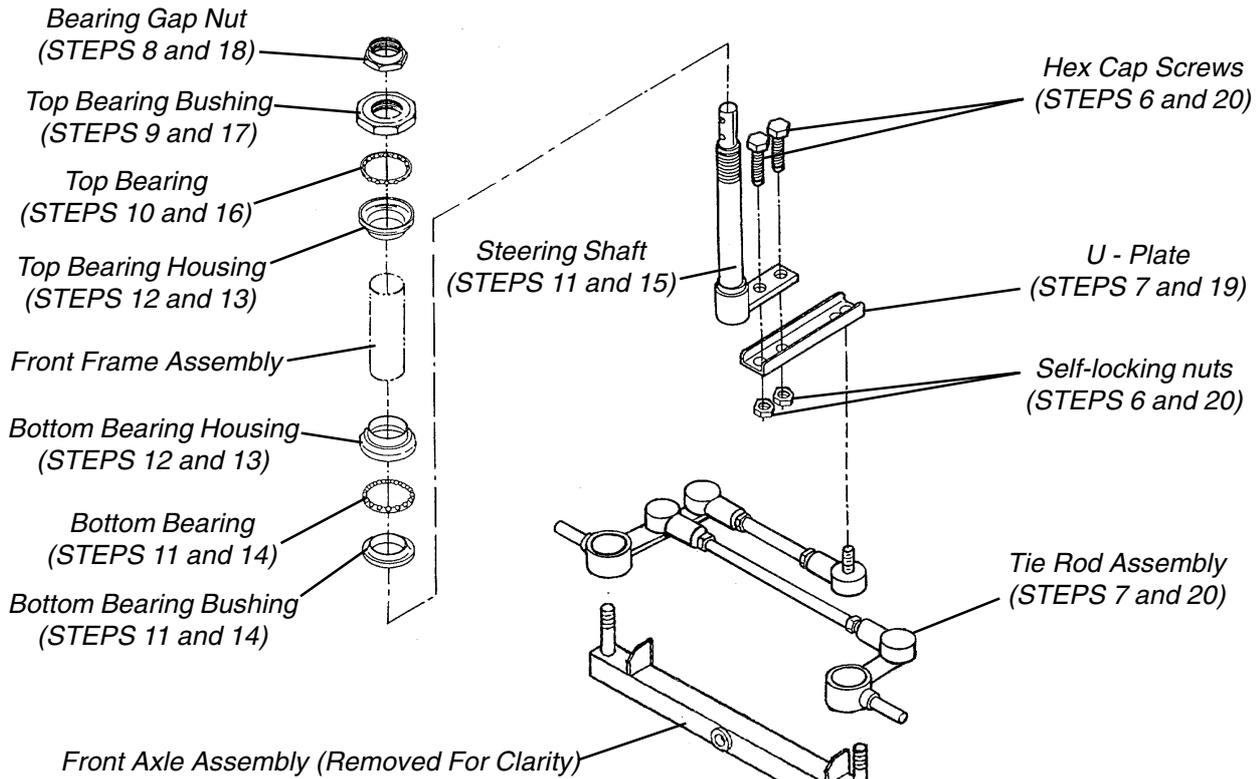

FIGURE 5 - REPLACING TIE ROD ASSEMBLY - PANTHER LX - 4
Panther LX - 4 (FIGURE 5)
6. Remove the two (2) hex cap screws and self-locking nuts securing the steering shaft to the U - plate on the tie rod assembly.
*NOTE: Before installing the **NEW** steering shaft, be sure it is in the proper direction (FIGURE 5).*